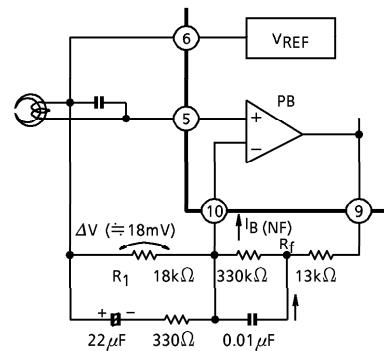

Fig.1 DC output voltage of playback amplifier.
In case that β of transistor is assumed 100, $I_B(\text{NF})$ is flowed $0.2\mu\text{A}$ in Fig.1. And output voltage of playback amplifier (pin⑧, ⑨) in Fig.1 is